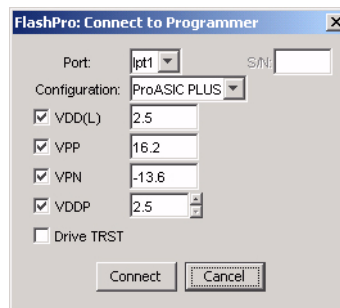

Figure 4-3. FlashPro "Connect..." Dialog
5. Ensure that the *Configuration* value is set to ProASIC^{PLUS}, and click *Connect* (Figure 4-3).